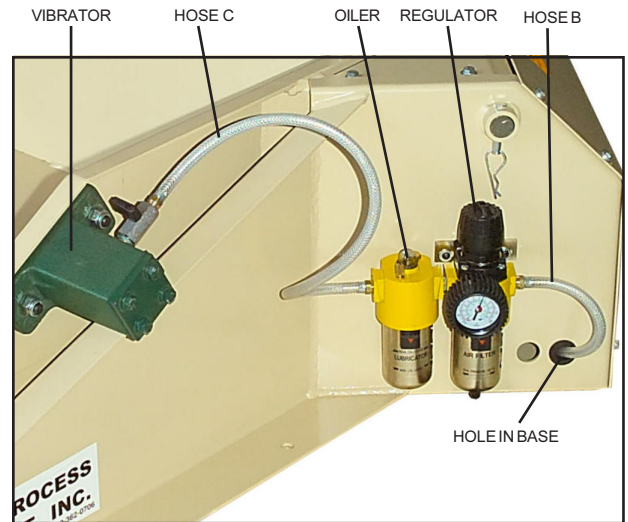

Figure 2
- 5) On the opposite side of the base from the regulator, bolt the Oiler/Regulator assembly (see **Figure 2**).